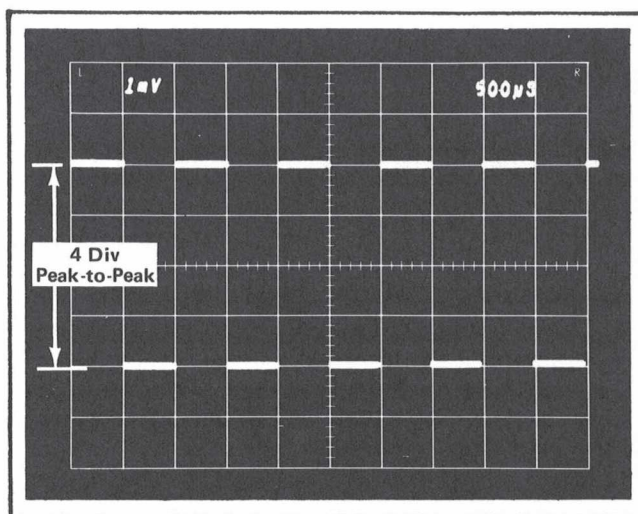

Fig. 5-3. Waveform display obtained showing correct vertical gain at 1 mV/div. Sweep rate 0.5 ms/div.
c. CHECK—CRT display for exactly 4 divisions of vertical deflection (see Fig. 5-3).